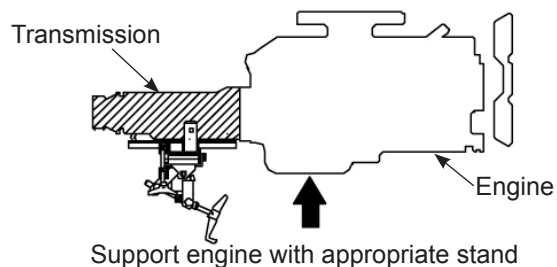

Figure 3
8. Before unbolting transmission from engine, support engine with stand, or other appropriate device. See Figure 3.